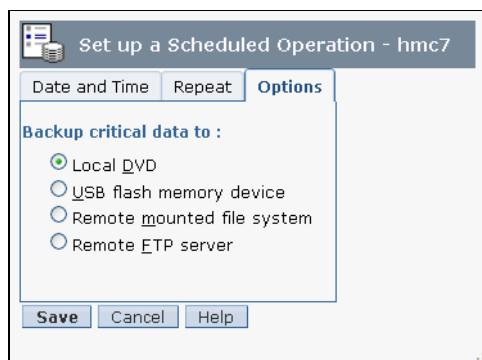

Figure 6-27 Scheduled HMC Data backup storage Options tab
5. On the Options tab (Figure 6-27), select locations of where you want to back up the data.